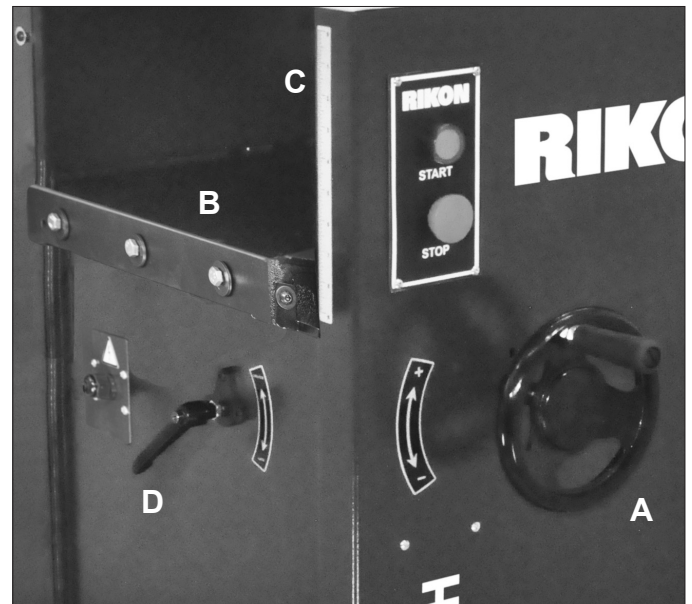

FIG. 6
1. Height adjustment is made with the hand wheel (FIG. 6, A). One full turn of the hand wheel changes the height of the planer bed (B) by 1/8".
2. The planing thickness is indicated on the Scale (C).
3. After preliminary cuts are made on all of your lumber, and the final thickness is settled, the table can be locked with the Lever (D). This is useful to ensure the setting will not change throughout the planing process, especially if a lot of lumber is to be planed at the same thickness.